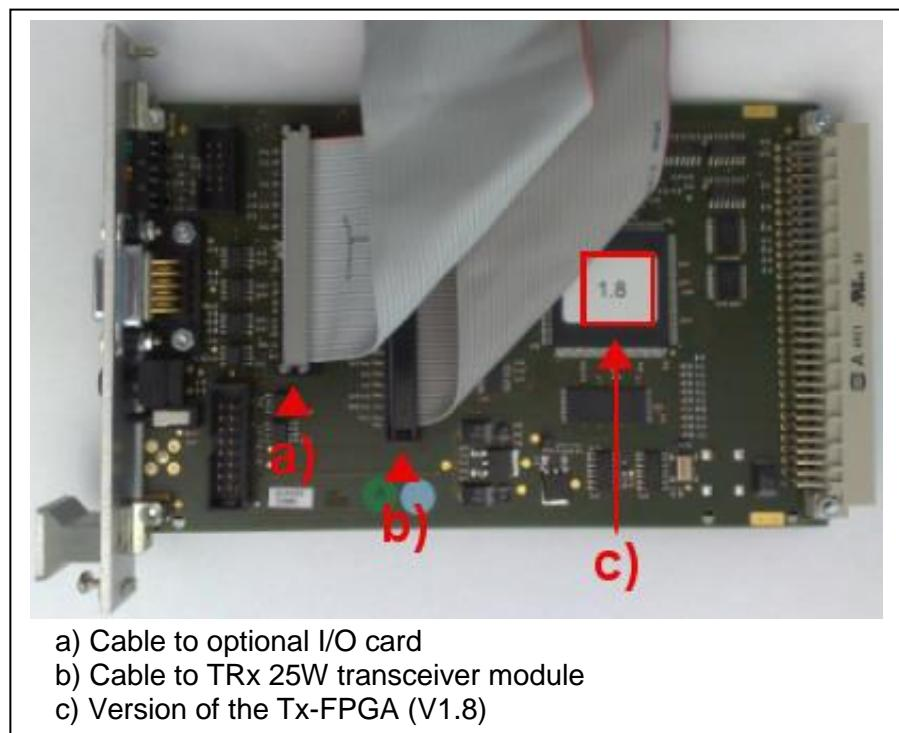

Figure 46: Wiring of the SC card
**Important:** The FPGA version of the SC card must be V1.8 or higher (see Figure 46).